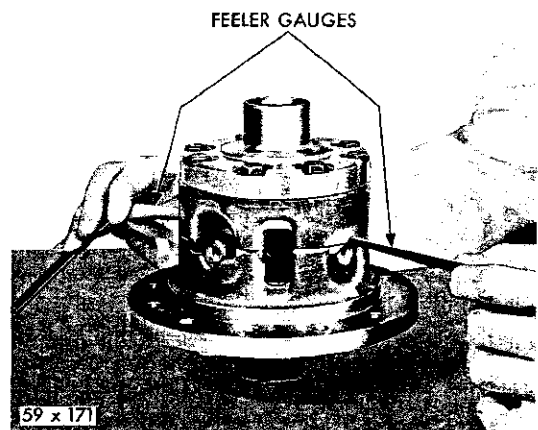

Fig. 43—Measuring Clearance Between Pinion Shafts and Case
(9) With the differential resting on one hub, insert two feeler blades, one over each end of the pinion shaft having ramps above it (Fig. 43). The clearance should not exceed .010 inch at each end of the shaft.